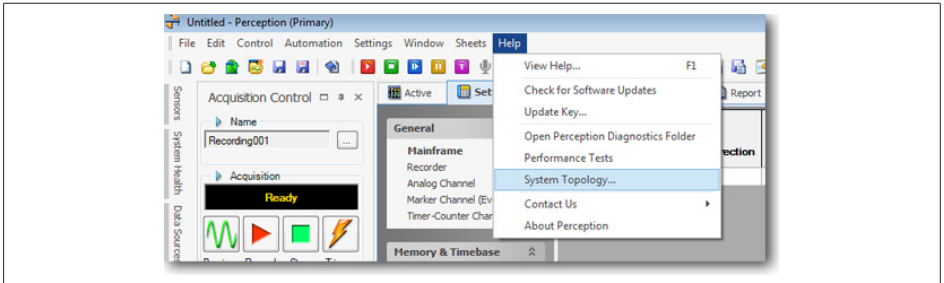

Fig. 14.20 System Topology Help
1. In the menu bar choose **Help ► System Topology** (see Fig. 14.20).